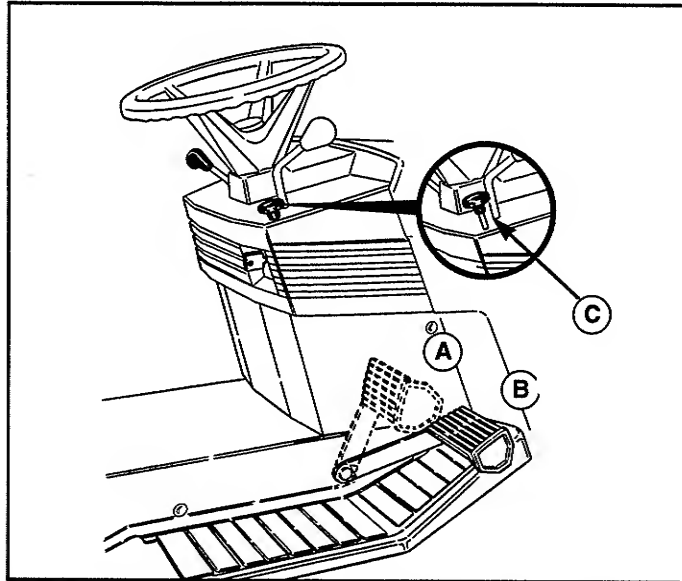

Figure 11. Clutch/Brake Pedal and Parking Brake (Brake Pedal Only - Gear Models)
1. See figure 11. Depressing the pedal to position A disengages the transmission drive and, when in a forward gear, returns the transmission control lever to neutral. Fully depressing the pedal to position B applies the tractor brake.
2. Parking brake is applied at pedal position B when parking brake control knob (C, figure 11) is pulled up with pedal fully depressed.
2. See figure 11. Depressing the brake pedal from position A to B applies the tractor brake. Parking brake is applied at position B when parking brake control knob (C) is pulled up with pedal depressed.
1. If you are ready to mow, lower the mower from the transport position using mower lift lever (A, figure 11 or M, figure 13) and set the mowing height using the
mowing height adjuster (B, figure 11).